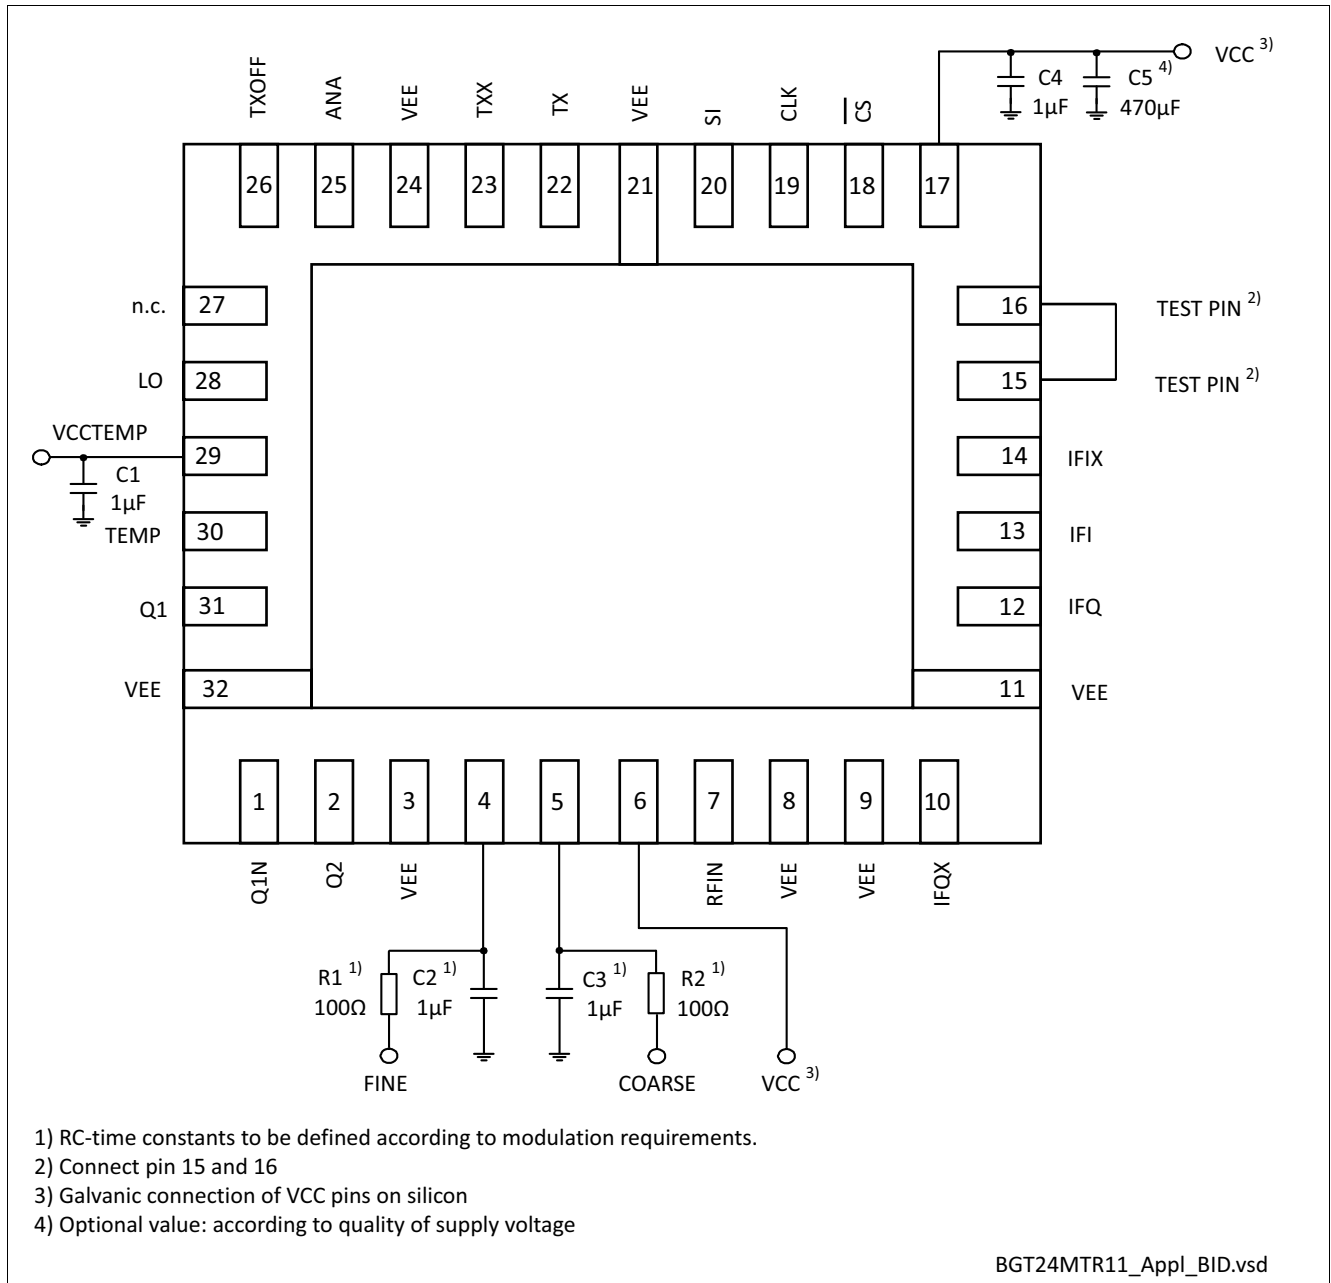

Figure 2 Application Circuit with Chip Outline (Top View)
- 1) Performance based on Application Circuit Figure 2 on Page 15, Cross Section of Application Board, Compensation Structures and Application Board Layout Figure 4 on Page 20ff and Footprint Figure 8 on Page 23
1) Performance based on Application Circuit Figure 2 on Page 15, Cross Section of Application Board, Compensation Structures and Application Board Layout Figure 4 on Page 20ff and Footprint Figure 8 on Page 23